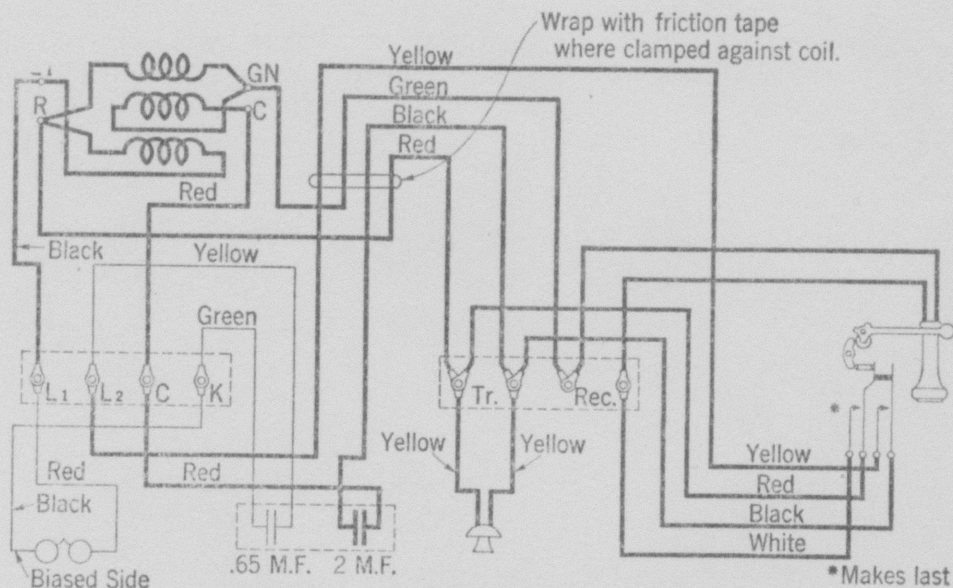

Fig. 3.
4.01 The connections for the No. 629A subscriber set are shown in Fig. 3.